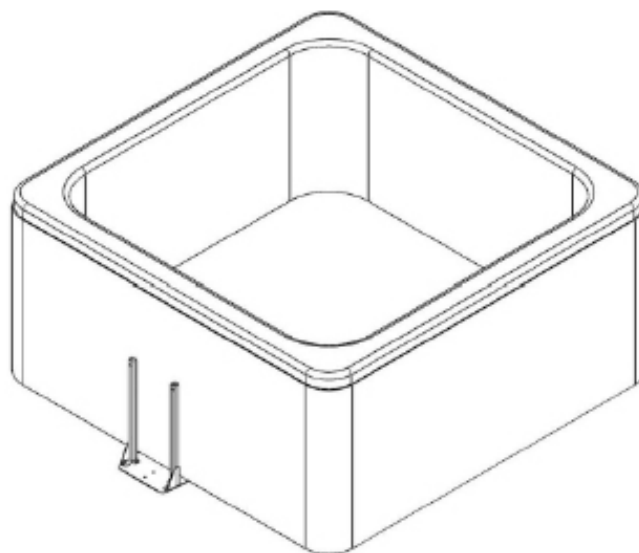

Figure 3
- 3 Make sure the spa is empty and slide the Base Plate/Support Leg assembly under the center of the back of the spa cabinet. This will be the side the spa cover will be stored behind. Ensure the ccFF Base Plate sits flat on the ground, with no overhang off the slab or deck. See Fig 3.